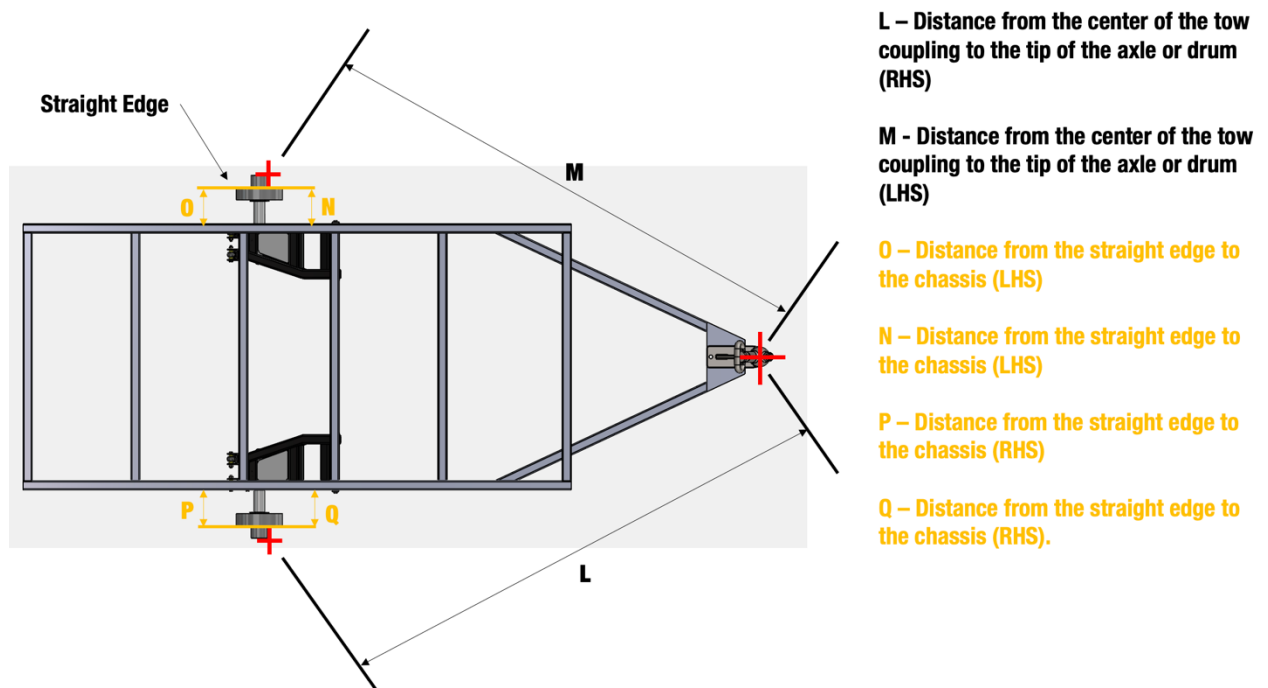

Figure 5
4. Refer to Figure 5. Measure distance L and M to obtain the distance from the center of the coupling to the tip of the axle or drum. This measurement must be accurate – ensure no droop in the tape measure and do not use elastic string.